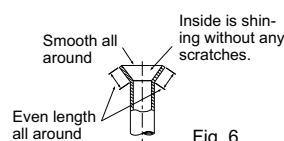

Fig. 6
- Compare the flared work with Fig. 6.